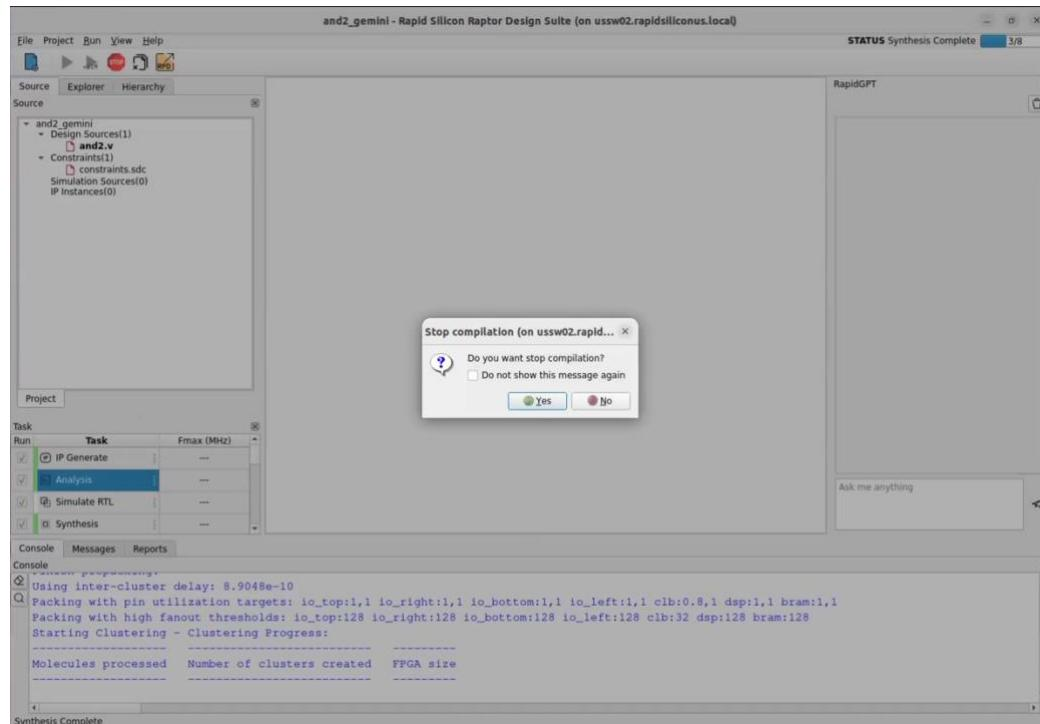

Figure 23. Stop the Compilation
14. Stop the compilation: The user can choose to stop the compilation by hitting the red Stop button in the tool bar. After stopping the user must clean the step at which the compilation was stopped before restarting the compilation from that stopped step as shown in Figure 23.